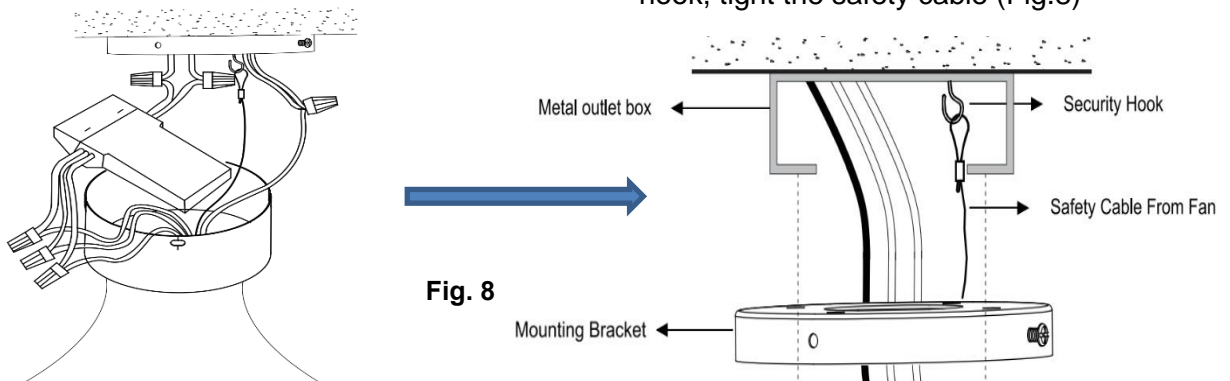

Fig. 8
7. Pull the metal safety cable on the security hook, tight the safety cable (Fig.8)